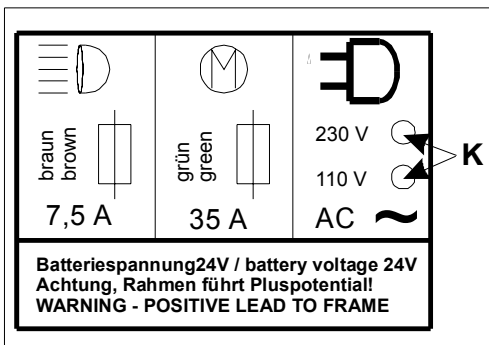
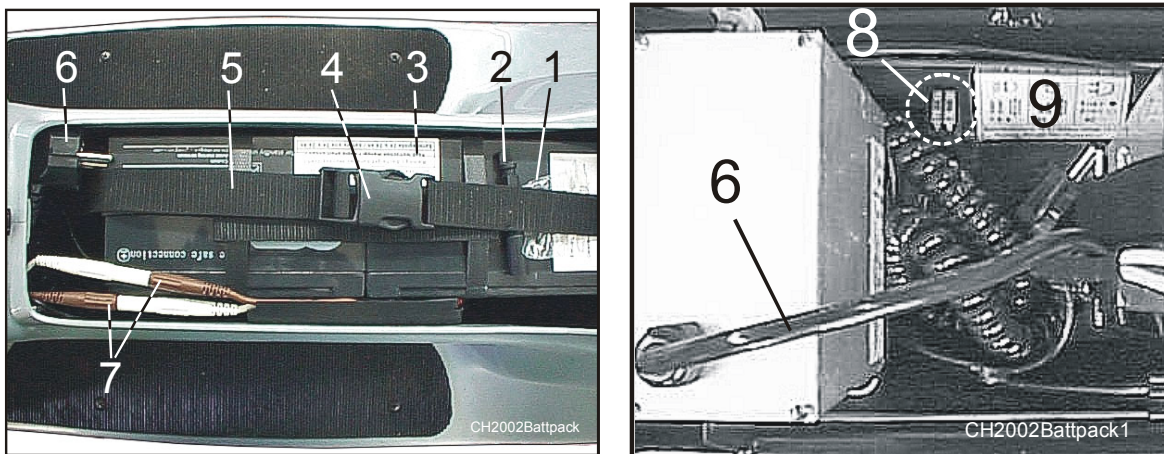

Fig. 17: Notice label in the cable compartment
Fig. 18: Battery pack
- Unplug the plug connections on the battery (fig. 18).
<p>Check that the mains voltage is the same as indicated on the cable compartment rating plate (figure 17). When using an external charging set, proceed according to the following sequence to disconnect the battery from the vehicle network:</p> <ul style="list-style-type: none"> - Unplug the plug connections on the battery (fig. 18). - Turn the master switch and the light ON after 10 seconds, approximately - Turn the master switch OFF
Pull the plug-and-socket connector (fig. 18, item 7) to disconnect the batteries. **Then, turn the master switch and the lights ON until all LEDs go out. Turn the master switch OFF again.**